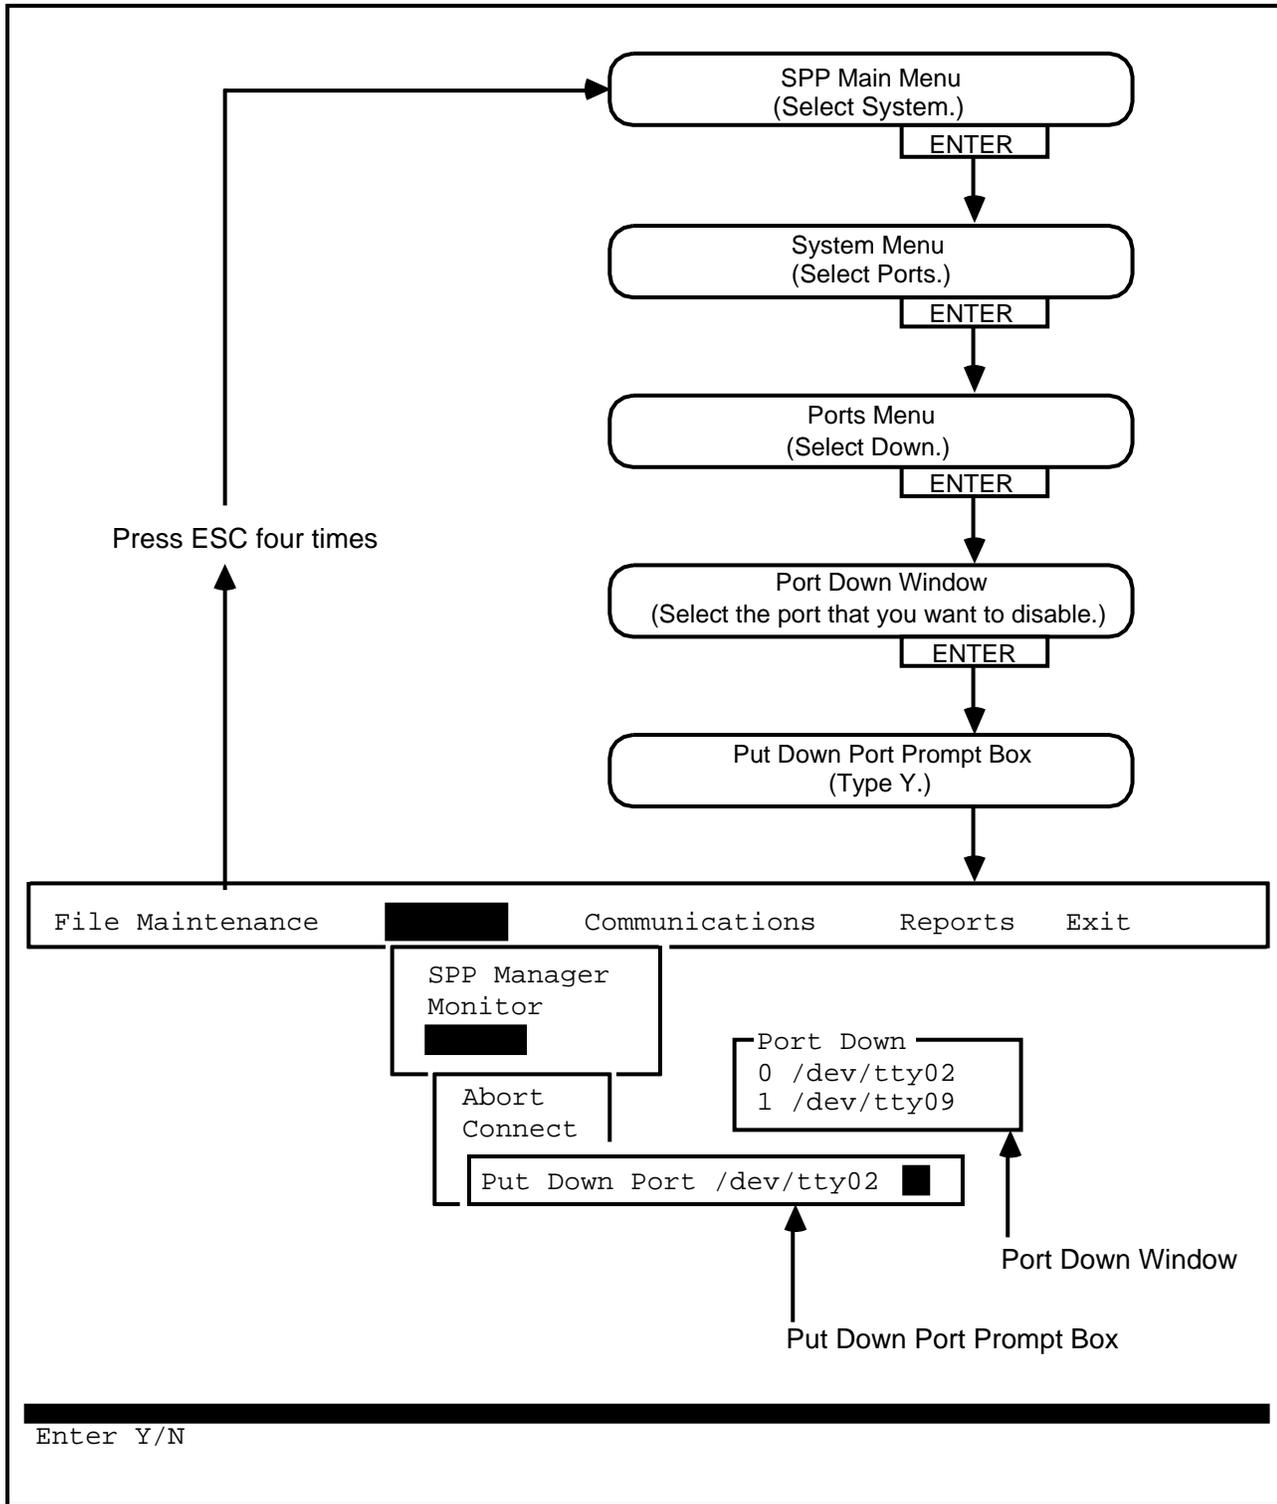

Fig. 4-6
4.14 The Put Down Port prompt box (see Fig. 4-6) is used to disable a port temporarily without shutting down the SPP manager. To disable a port temporarily, proceed as follows: